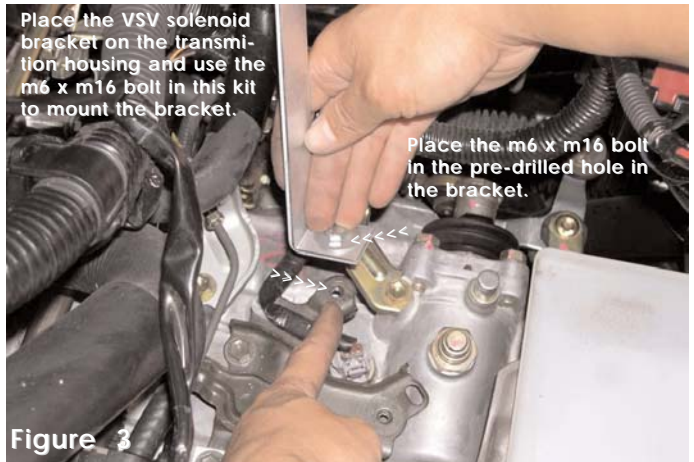

Figure 3
3. Take the VSV bracket and m6 x m16 bolt in this kit and set the VSV bracket over the transmission housing brace. Tighten the bolt until the bracket is secured . (See figs. 3 and 4)